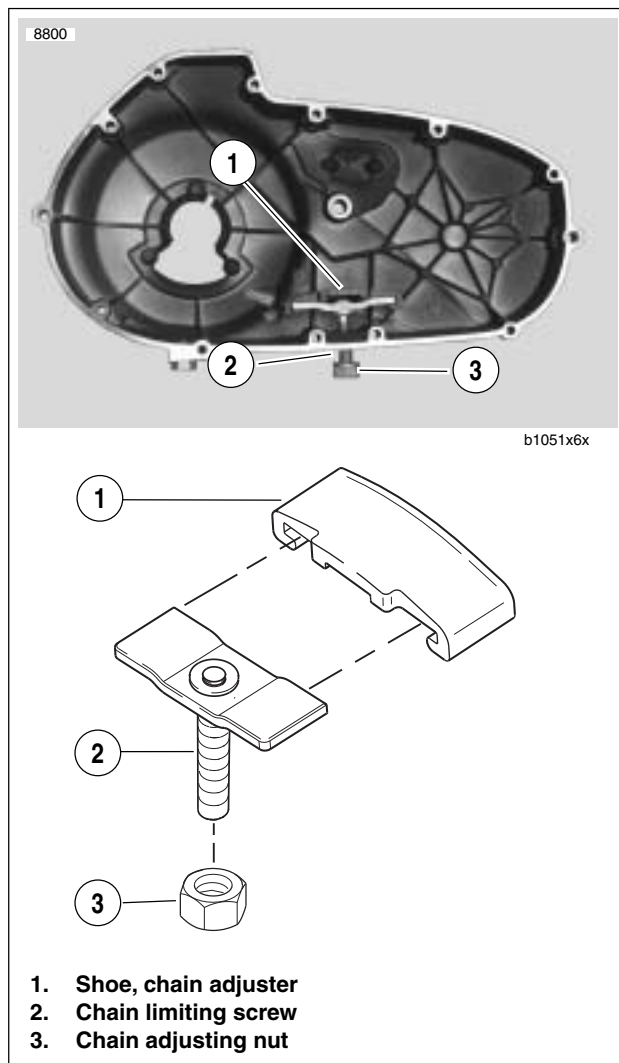

Figure 6-4. Primary Chain Adjuster
1. See Figure 6-4. Remove chain adjusting nut from the chain limiting screw.
3. See Figure 6-4. Thread chain limiting screw (2), counter-clockwise, down through the bottom of the outer primary cover, on the inside, until it bottoms out.
4. Install the chain adjusting nut (3) but do not lock down.